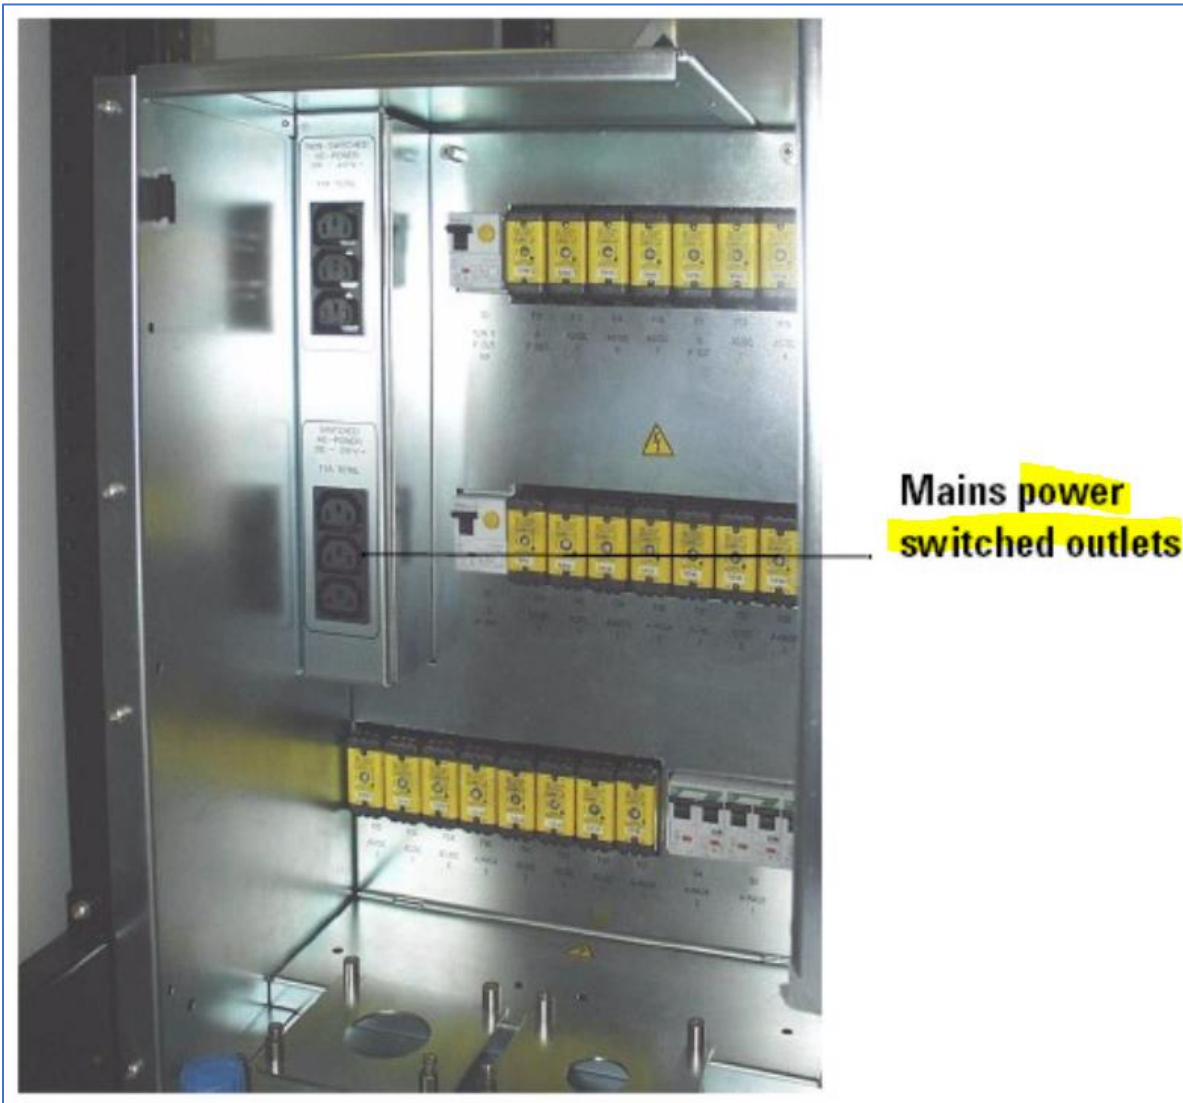

Figure 9: V93000 STH power switched outlets
- b. If V93000 is STH, then refer to Figure 9: V93000 STH power switched outlets.